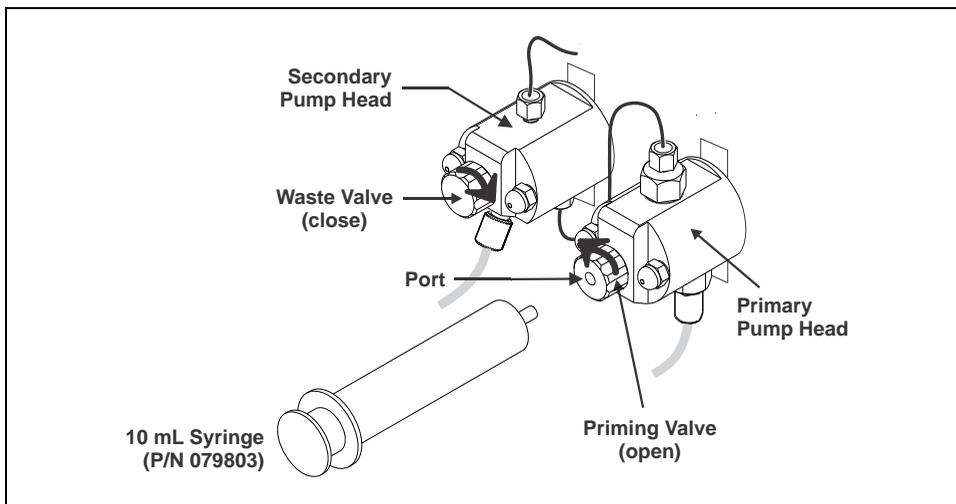

Figure 5-23. Priming the Eluent Lines
2. Connect a 10 mL syringe (P/N 079803) to the priming valve port on the primary pump head (see Figure 5-23).